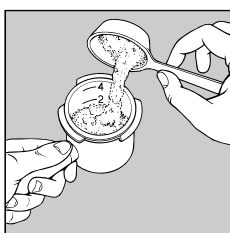

fig. 4
- 5 Fill the filter with ground coffee using the measures described in the table (page 10) about 7 g per cup. Fill the filter evenly in small doses to prevent the ground coffee from overflowing. (fig. 4).